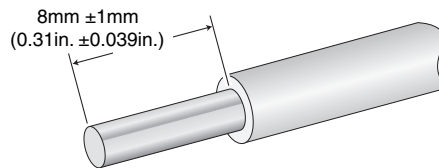

Figure 17. Stripped Wire
3. With a 14-gauge wire-stripping tool, strip the three wires in the tray cable coming from the DC input power source to 8 millimeters \pm 1 millimeter (0.31 inches \pm 0.039 inches), as shown in Figure 17.